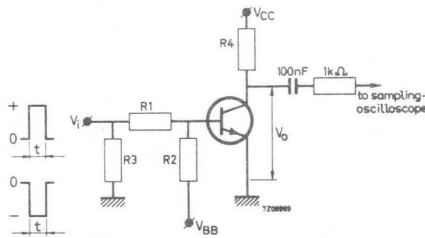

Fig. 1
a) $I_C = 150\text{ mA}; I_B = 15\text{ mA}$ (fig. 1 on page 4)
b) $I_C = 300\text{ mA}; I_B = 40\text{ mA}$ (fig. 1 on page 4)
cut-off with $-I_{BM} = 20\text{ mA}$ (fig. 1 on page 4)
cut-off with $-I_{BM} = 1\text{ mA}$ (fig. 1 on page 4)